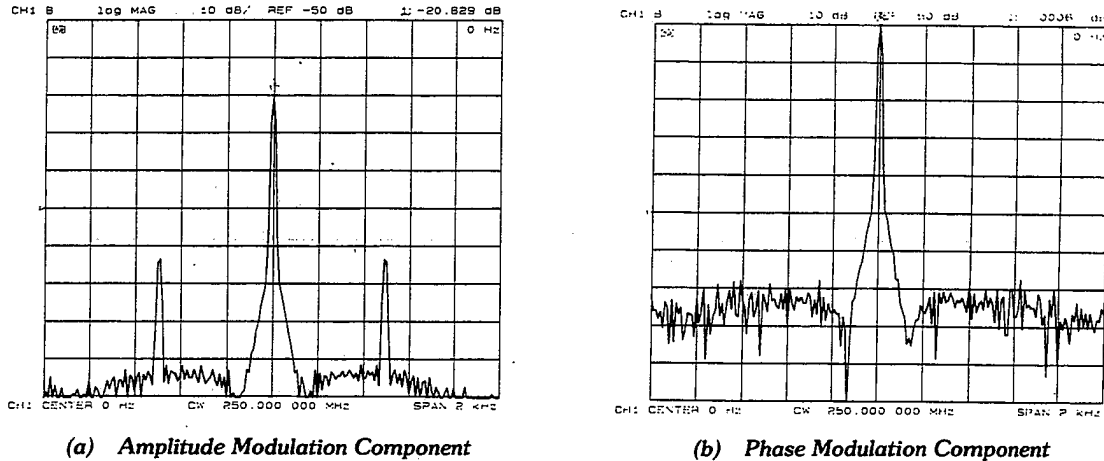

Figure 10-42. Separating the Amplitude and Phase Components of DUT-Induced Modulation
**[AMPLITUDE]** displays only the amplitude modulation (AM), as illustrated in Figure 10-42 (a).
**[PHASE]** displays only the phase modulation (PM), as shown in Figure 10-42 (b).